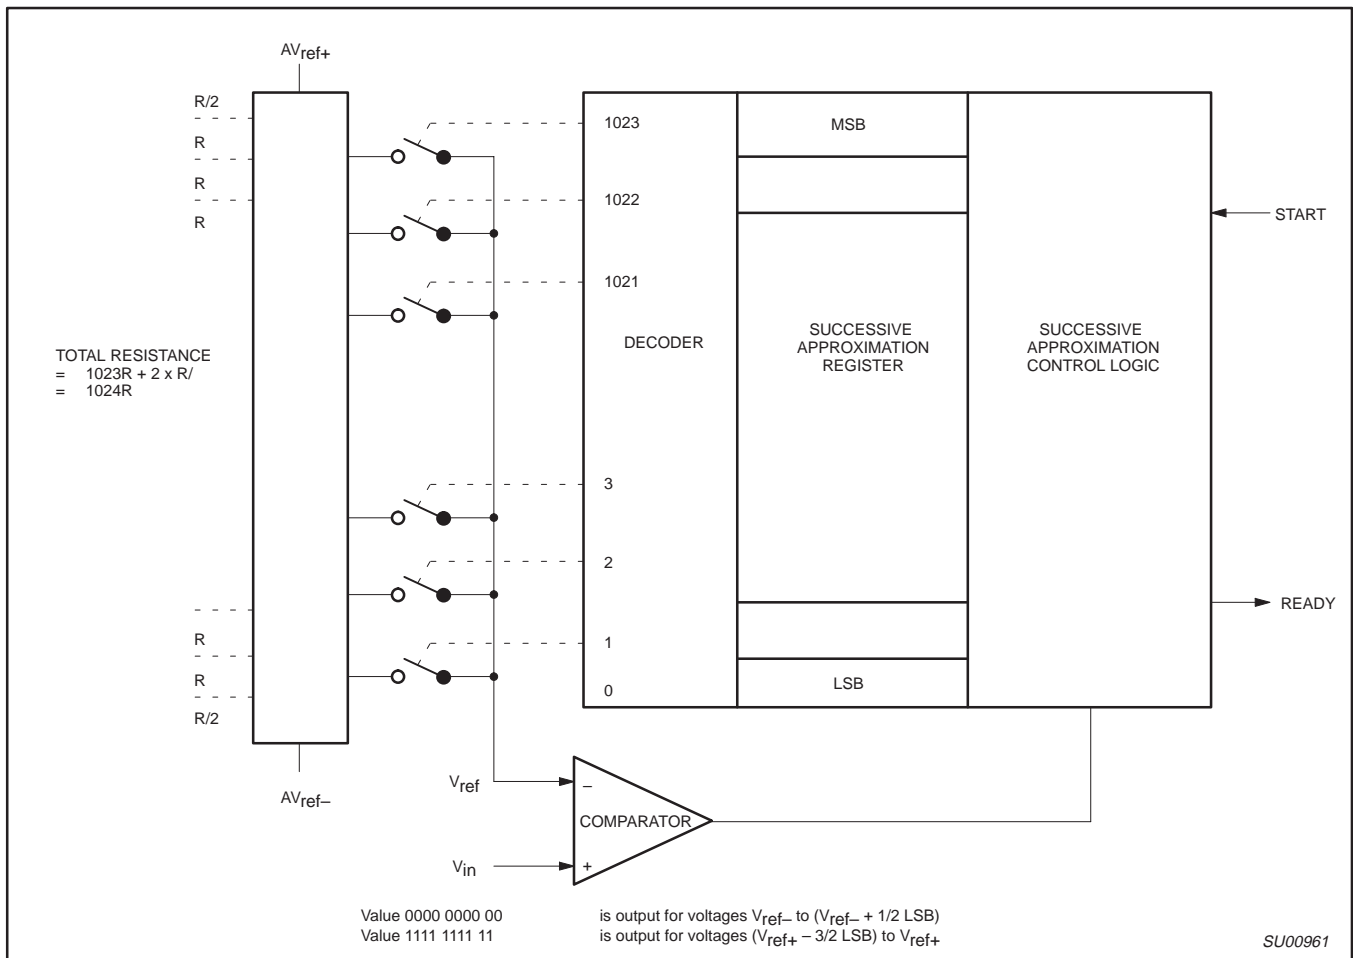
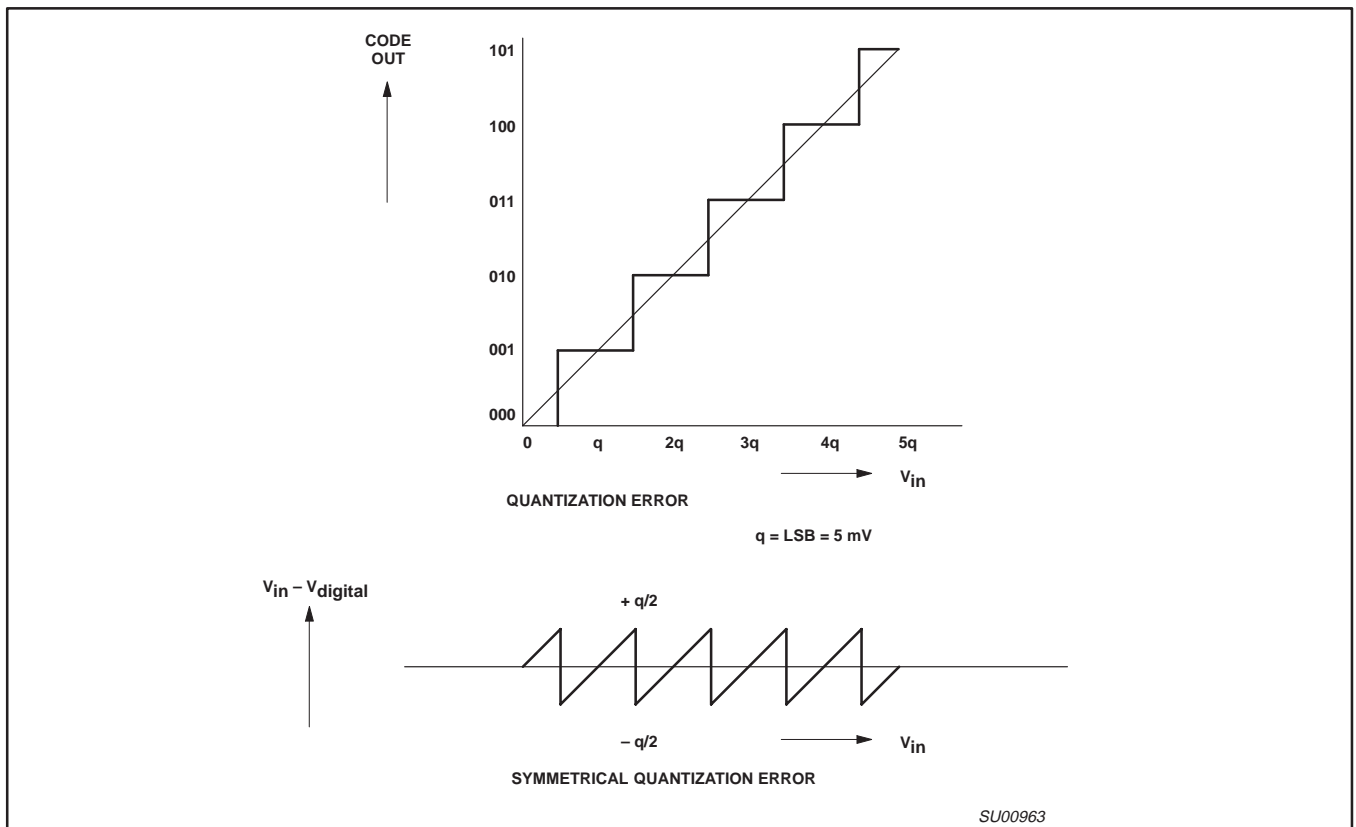

Figure 23. ADC Realization
Figure 25. Effective Conversion Characteristic
**10-Bit ADC Resolution and Analog Supply:** Figure 23 shows how the ADC is realized. The ADC has its own supply pins (AVDD and AVSS) and two pins (Vref+ and Vref-) connected to each end of the DAC's resistance-ladder. The ladder has 1023 equally spaced taps, separated by a resistance of "R". The first tap is located 0.5 x R above Vref-, and the last tap is located 1.5 x R below Vref+. This gives a total ladder resistance of 1024 x R. This structure ensures that the DAC is monotonic and results in a symmetrical quantization error as shown in Figure 25.